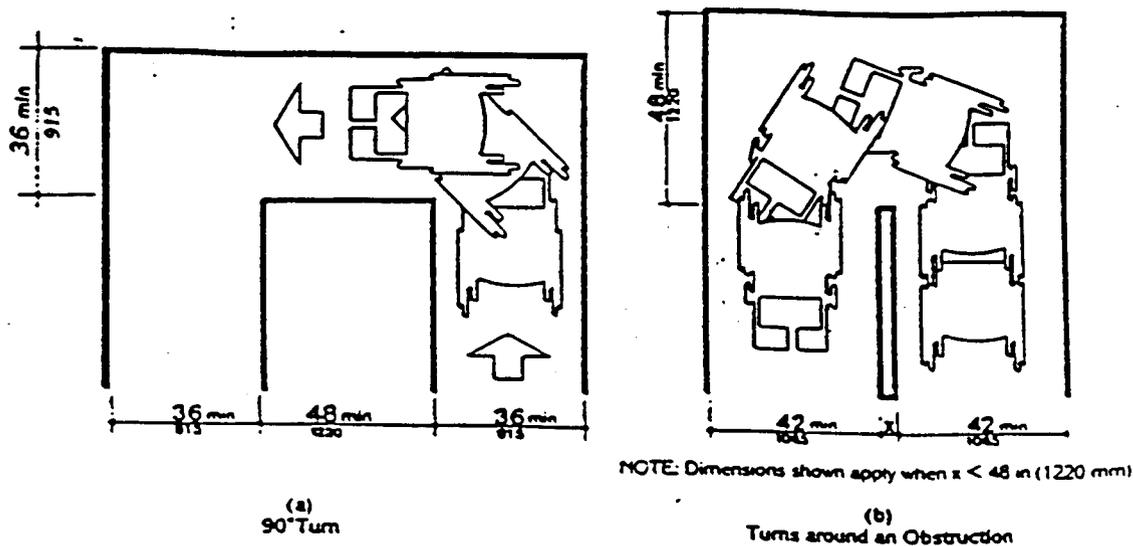

Fig. 7
b. Pathway width increases to at least 48 inches where the accessible pathway makes a U-turn around an object. (Fig. 7)